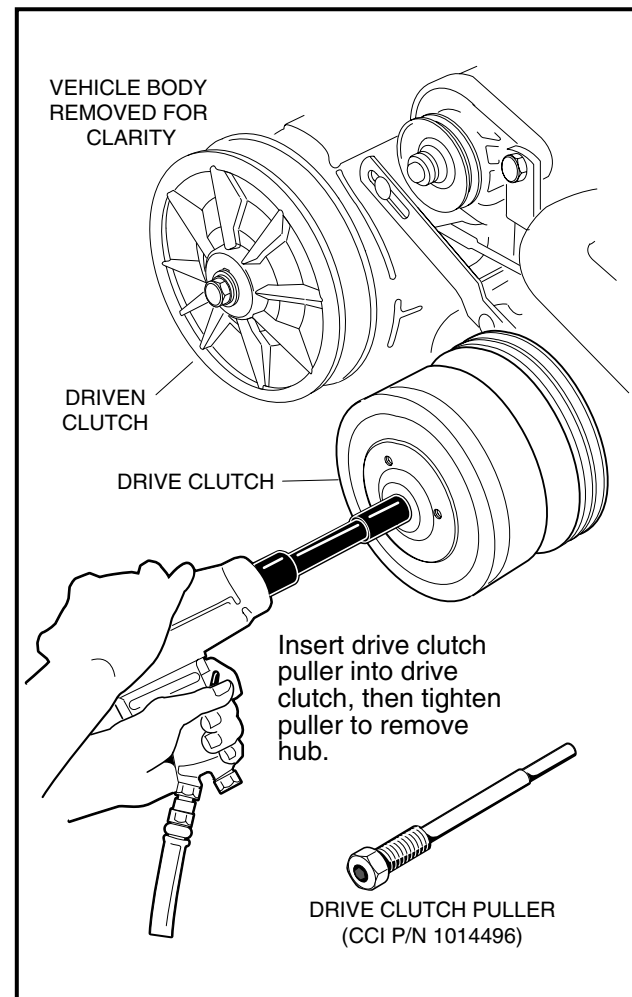

Figure 17-4 Drive Clutch Removal
- Using a 1/2-inch socket, tighten the clutch puller tool. The drive clutch will release free of the crankshaft (**Figure 17-4, Page 17-6**).